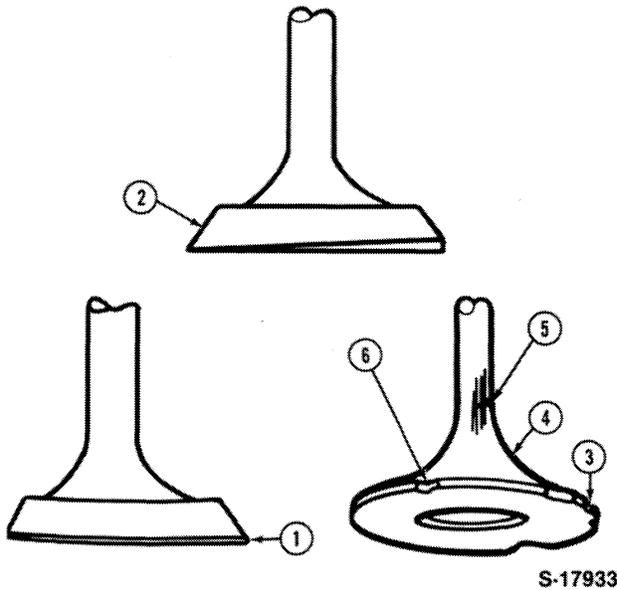

Figure 20
1. Clean all deposits from the valves using a soft wire brush. Inspect the condition of the valve and discard any that are badly burned, cracked or bent, Figure 20.